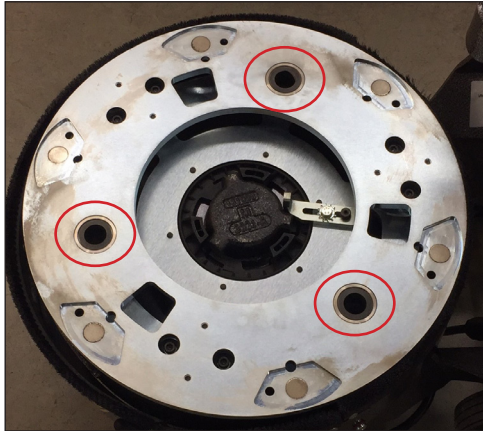

FIG. 11
- Using a rag, clean foreign material from the satellite bearing bores (Figure 11) and satellite shafts prior to installation. **Note:** Do not lubricate the bearing bores or shafts. The bearings are self-lubricating and do not require lubrication. Adding lubrication will attract foreign material which could cause improper rotation of the satellites.